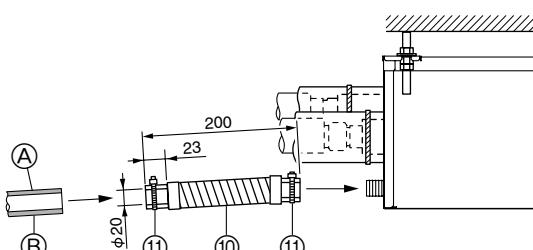

Fig. 8-1
(1) Apply PVC adhesive (procure locally) to the drain connection on the branch box and push the attached drain hose ⑩ onto the connection as far as it will go. (Fig. 8-1)
(2) Insert a hard PVC pipe (VP-16, procure locally) into the attached drain hose ⑩ and glue it together and fix it. (Fig. 8-1)
(3) Fit a band ⑪ to the attached drain hose ⑩. (Fig. 8-1)